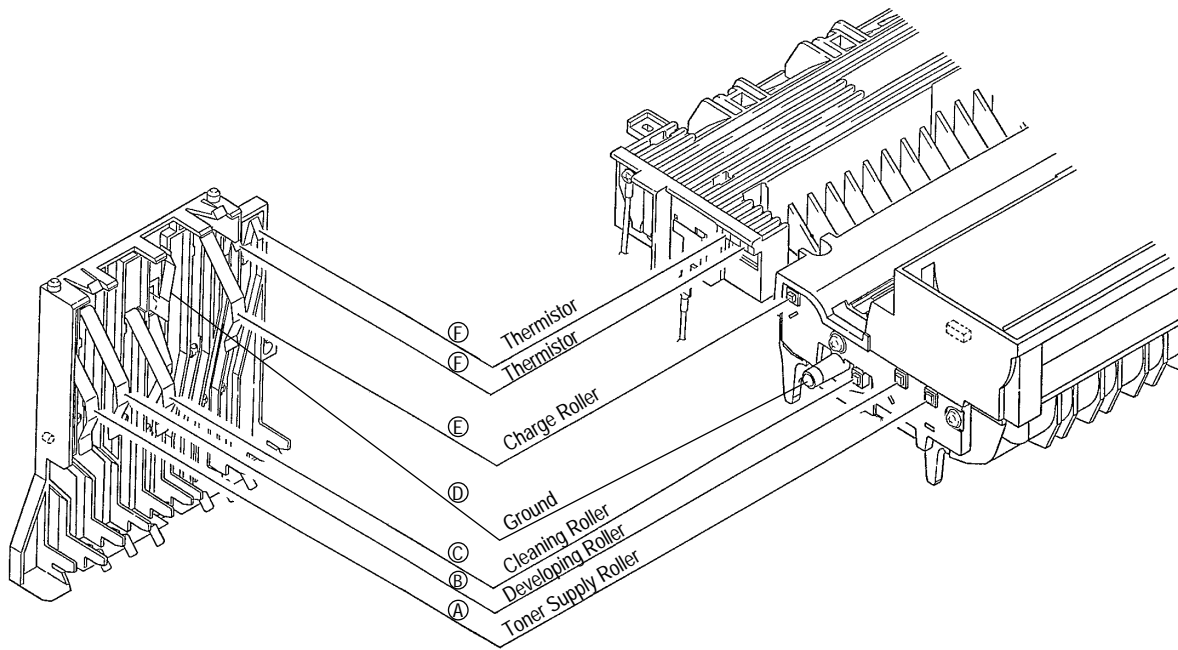

Figure 6-5
- Is the contact plate of the transfer roller contacted with the power/sensor board properly? (See Figure 6-5.)
- No Are the contacts of the toner supply roller, developing roller, image drum and charging roller contacted with the contact assy properly? (See Figure 6-5 (A), (B), (C), (D), (E).)
(See Figure 6-5 ©.)